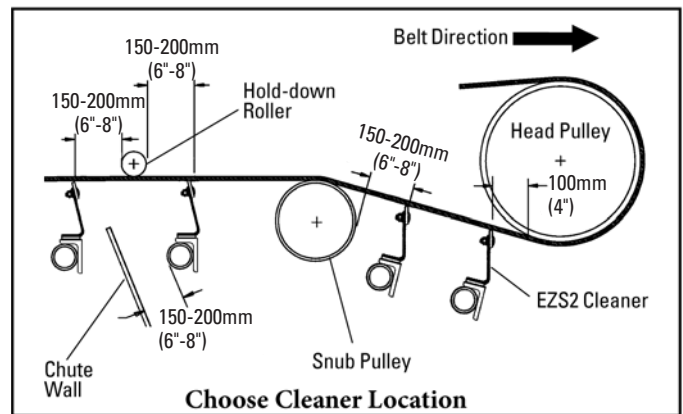

Fig. 1a
1. **Install the mounting brackets.** Determine the correct clamp block (left or right) and bracket needed for each side of the conveyor. The top strap should be offset away from the belt (you should be able to see the notch for the top strap from the outside of the conveyor). (Fig. 1a). Position the mounting bracket to locate the cleaner pole centerline 175mm (7") below the beltline. The pole must be installed so the blades do not touch the belt. Positioning the brackets perpendicular to the belt is recommended (Fig. 1b).
- Loosen and turn the top adjusting bolt jam nuts 1" (25mm) above the tops of the adjusting brackets (Fig. 1a).